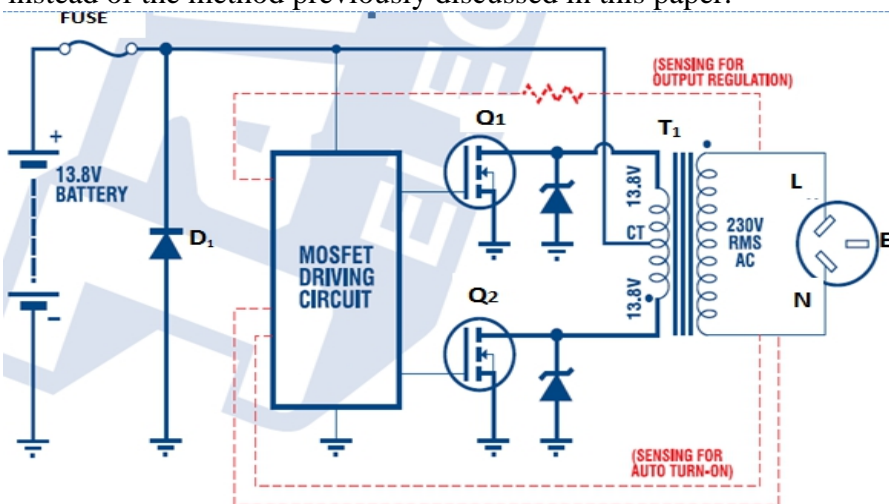
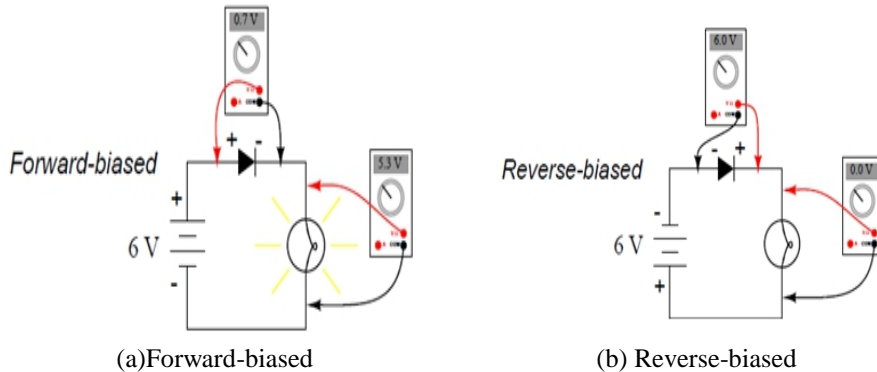
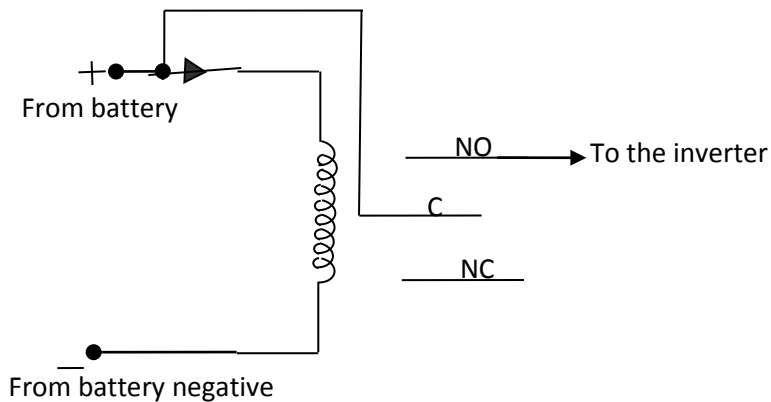

Fig. 1. Inverter circuit with polarized source D1
Fig.4 Application of diode
Fig.5 Protected load
accidentally reversed. But this type of reverse polarity is generally not fitted to DC-AC inverters, because of the heavy current drain involved. The additional voltage drop introduced by a diode would degrade the inverters regulation too much, quite apart from wasting power and hence reducing the overall efficiency. If reverse polarity protection is provided (fig.1.), this is usually in the form of a protective fuse or circuit breaker in series with the battery leads, plus a reversed polarity power diode (D1) connected across the inverters, this means that when the battery leads are connected with the correct polarity, the diode is reverse biased and remains dormant. But if the battery connections are accidentally reversed, the diode (D1) is forward biased and suddenly conducts blowing the fuse and hopefully protecting the inverter itself. This system generally does provide protection against reversed-polarity damage to most of the inverter circuitry, without degrading its efficiency or output regulation. However the price you pay is that an accidental reversal of the battery connections still blows a fairly expensive high-current fuse, and sometimes also destroys the protective shunt diode as well. Probably for this reason, some lower priced inverters don't incorporate any specific protection against accidental reversal of the battery leads. So with these inverters, you have to be especially careful to connect the battery leads correctly .Even with inverters which are provided with protection, it's still a very good idea to double-check the connections before clipping on the second battery lead. Remember that a mistake will almost certainly mean a blown fuse at least, and possibly a long delay until you can replace it! (Jaycar, 2000). In this paper, a diode is connected in series with a load relay coil instead of the method previously discussed in this paper.
In this paper, the same principle of operation (fig.4) is applied to the load relay (fig.5). The diode allows the relay to energize only in forward-biased mode thereby allowing current to flow from the “normally” opened terminal” (NO) of the relay via the “common”. Since the positive terminal of the battery is connected to common (C) of the relay, when energized, the normally open becomes close and as such sends a positive source to the centre tapped of the inverter transformer and by so doing conduction will take place only in forward mode (fig.3a). This method has no any limitation on the required current needed to drive the inverter like in the case of fig.1.
3. No case of any heavy current drained by the diode as it is not connected in parallel with the battery like in fig.1